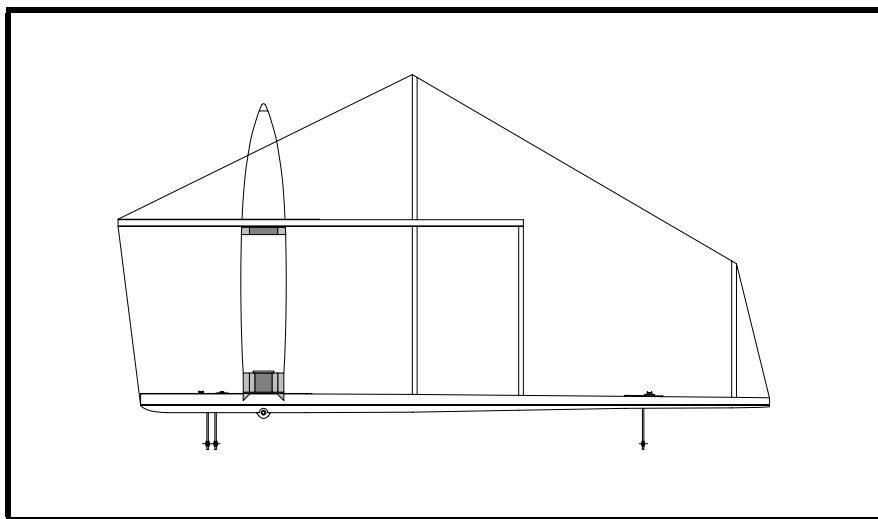

Figure 7
- ❑ Fit the leading edge ribs for Sta. 2 and 5 (P/N 413-3 and 415-6) in place. These ribs must be placed very accurately, since they will be used to align all of the ribs in between. See Figure 7.
- ❑ Stretch a string across the ribs at Sta. 2 and 5. See Figure 7. This is to align the remaining ribs.